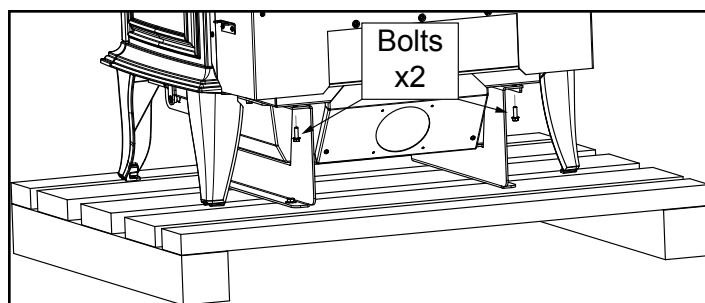

Figure 5.2
5. Using a 3/8 socket or open end wrench, remove two bolts on back side as shown (**Figure 5.2**).